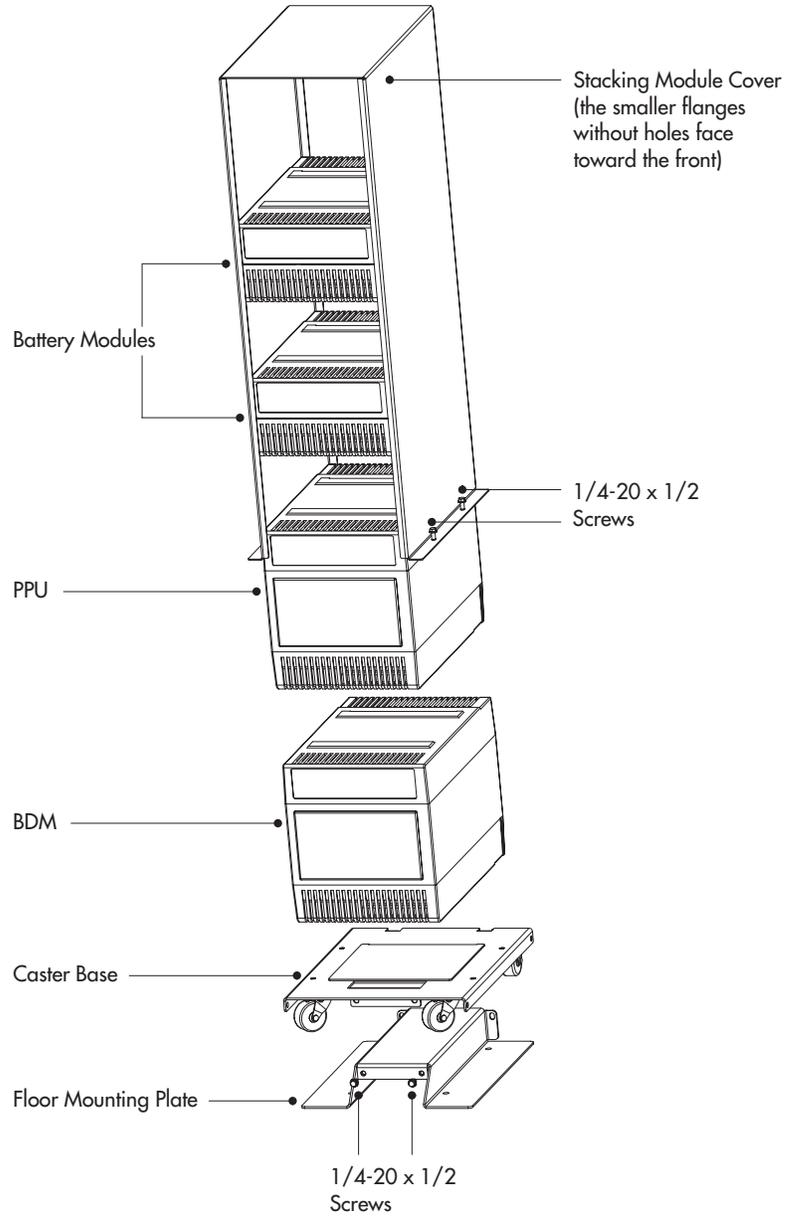

Figure 3. UPS with BDM
Note: Do not connect more than six standard battery modules to the PPU. For extended battery times, contact your Lucent Technologies representative. Do not place more than six modules in one stack (the PPU is equal to two modules and the BDM is equal to two modules). Make sure you stack the modules in the order shown in Figure 3.
- B Secure the caster base to the mounting plate using four of the 1/4-20 x 1/2 screws provided. See Figure 3 for part locations.
- 3** Stack the modules onto the caster base according to the stacking order shown in Figure 3.